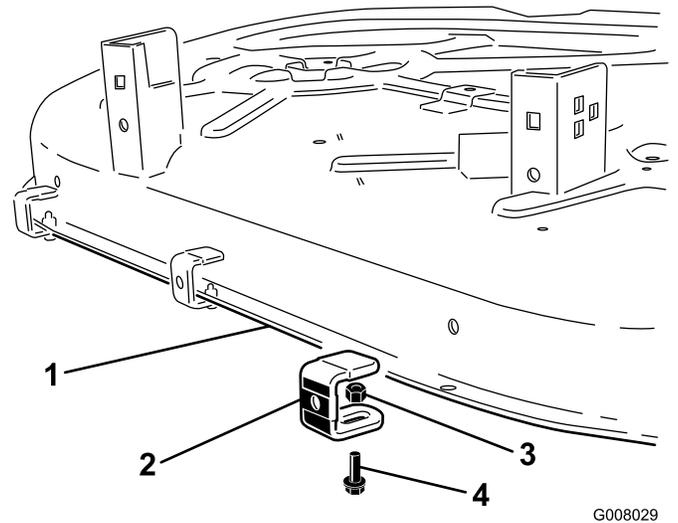

Figure 2
3. Install the bracket to the holes shown in (Figure 2) using the three bolts (1/4 x 3/4 inch) and three lock nuts (1/4 inch). Hold the rubber cap of the bracket tightly against the back of the deck and tighten. Use the outside holes on the either end of the back of the deck.